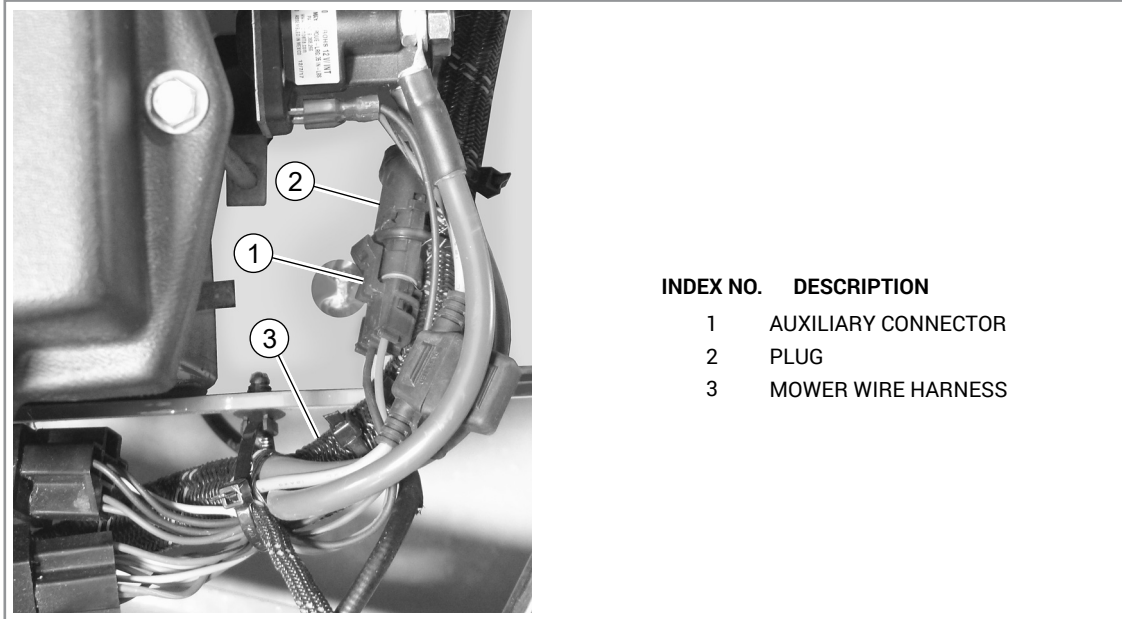

FIG. 6
13. Locate the auxiliary connector attached to the mower wire harness next to the battery. Remove the plug from the auxiliary connector. FIG. 6